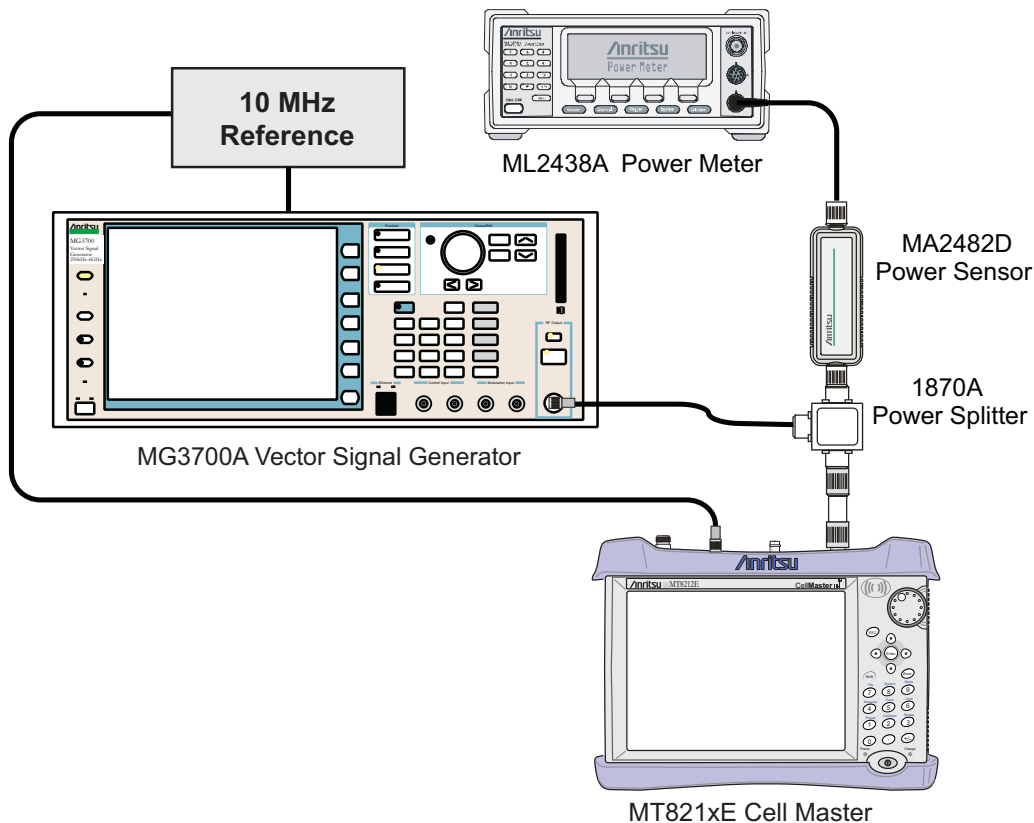

Figure 5-6. GSM/EDGE Signal Analyzer Option Verification
2. Connect the equipment as shown in Figure 5-6.
5. Set the MT821xE mode to **GSM/GPRS/EDGE Signal Analyzer**. Press **Shift** and press **Preset (1)** to preset the MT821xE.
1. Confirm that the equipment settings are unchanged from the previous test. Refer to Figure 5-6 on page 5-26.